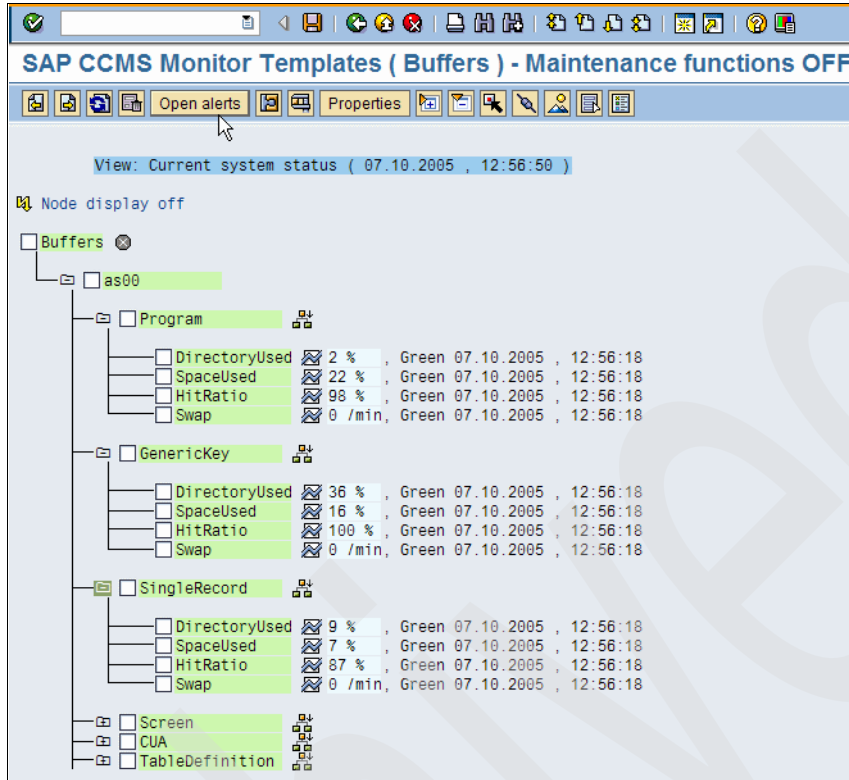
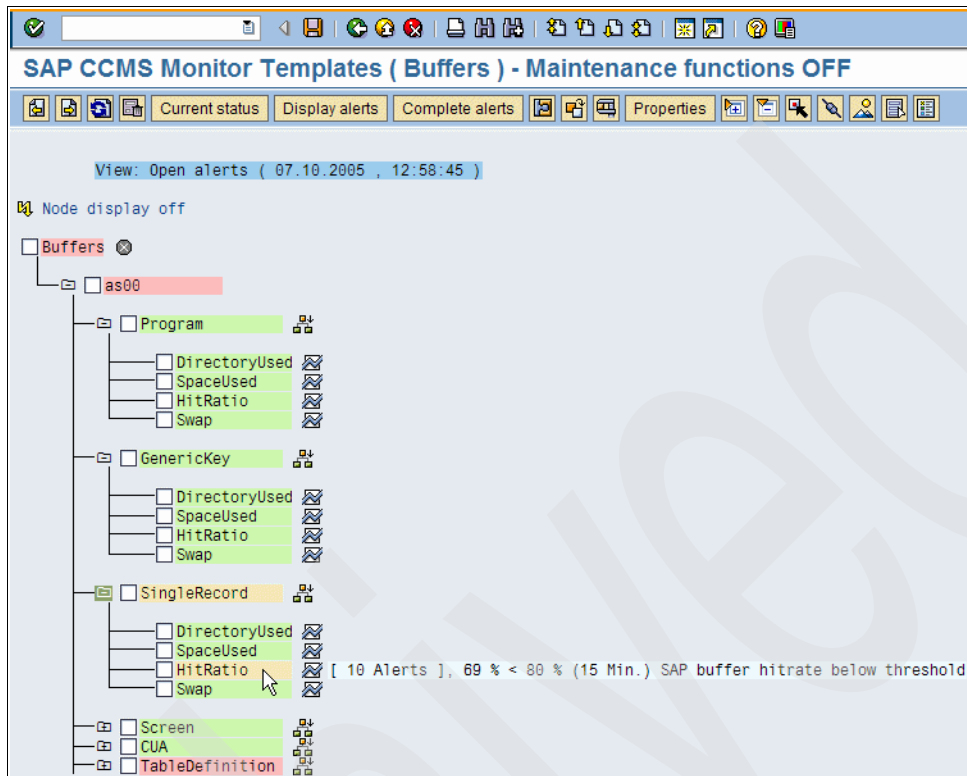

Figure 25-23 Buffers - view current system status
Figure 25-24 Buffers - view open alerts
2. Double-click **buffers** to view the current buffers status. Refer to Figure 25-23.
3. Click the **open alerts** button to change to view, as shown in Figure 25-24.
Present alerts are shown in Figure 25-23 on page 489. Figure 25-24 on page 490 shows alerts from the past. Double-click any row in the buffers current view, as shown in
Figure 25-23 on page 489, to see a current overview of buffers state, as shown in Figure 25-28. No alerts are currently shown.